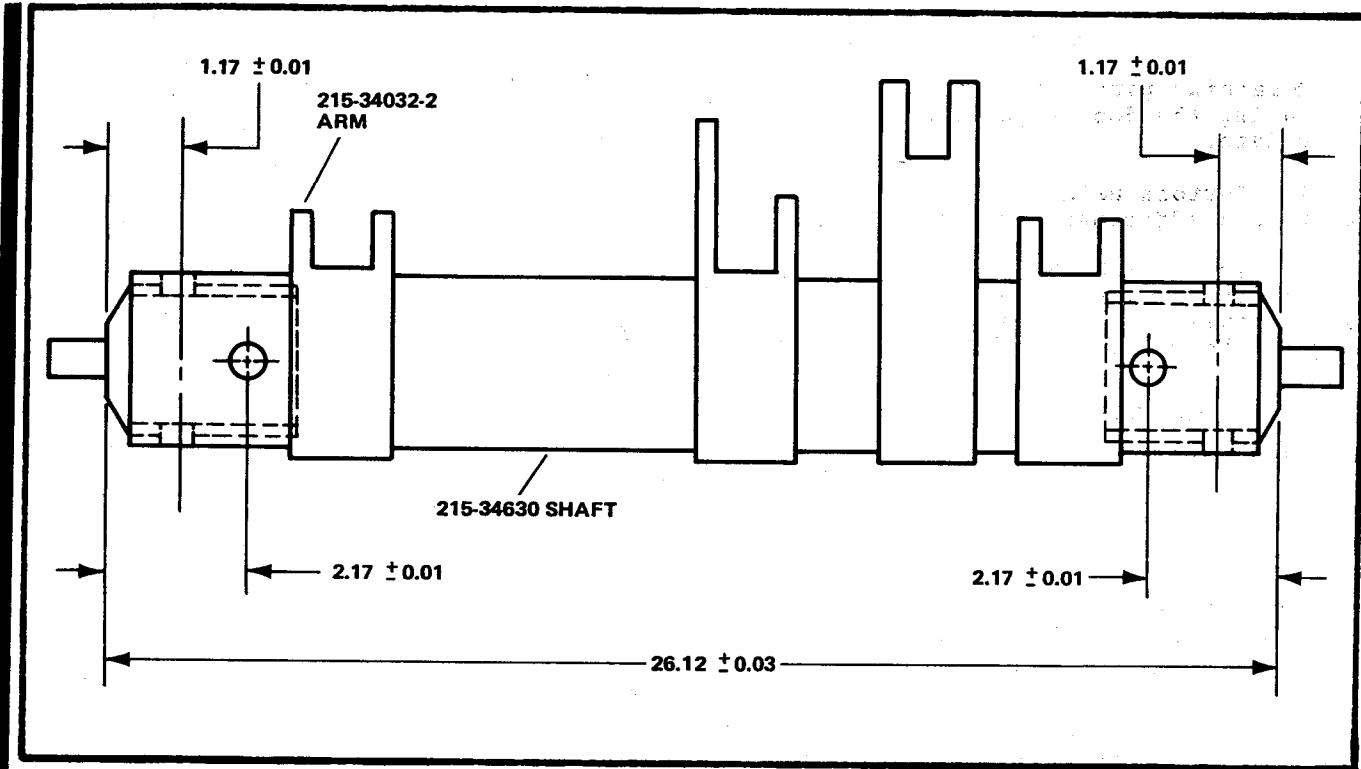

Figure 1-16A. Support Cap Assembly, Part No. 215-34031-1
c. Place new support cap in VEE block and drill two pilot holes, 90 degrees apart through cap at locations shown in figure 1-16A.
inch dimension (shown in figure 1-16A) and line ream the holes through shaft and cap to 0.2500 (+0.003, -0.001) inch hole diameter.